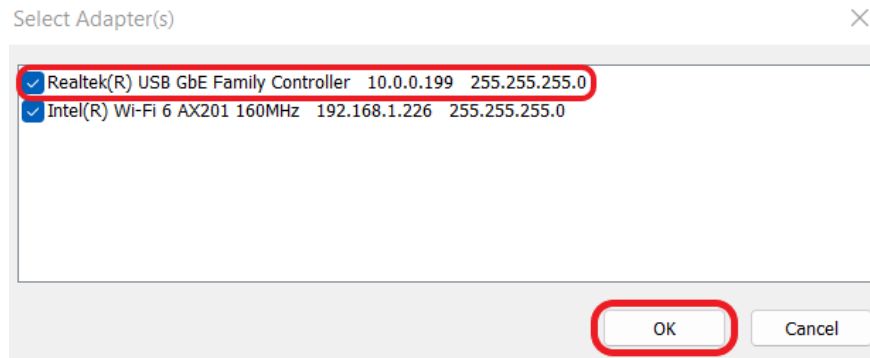

Figure 29: Static Routes – ‘Select Adapter(s)’ window
- Clicking ‘Broadcast Search’ will open the ‘Select Adapter(s)’ window. This window shows all available network adapters on your computer that currently have network devices configured. It is only necessary to select the adapter you are using, either Wi-Fi or ethernet, depending on what network configuration and connection method you are using to connect to the controller. However, there is no harm in leaving all adapters selected and simply pressing ‘OK’ – highlighted in Figure 29 on the next page – to start the scan.